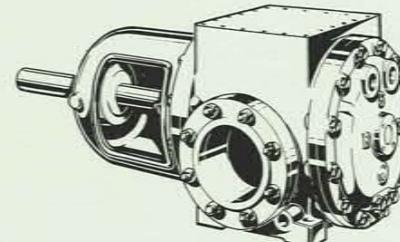

fig. 9
- with normal or integral heating jackets on the pump cover and casing for heating fluids, hot water or low pressure steam (max. 6 kg/cm² at 250°C) when high viscosity liquids or liquids which tend to solidify have to be pumped (see fig. 9)